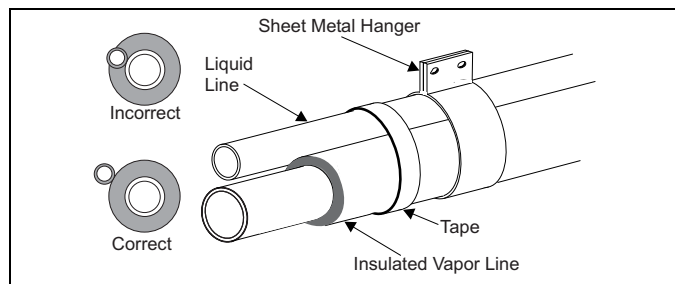

FIGURE 2: Tubing Hanger
- Tape and suspend the refrigerant lines as shown. DO NOT allow tube metal-to-metal contact. See Figure 2.